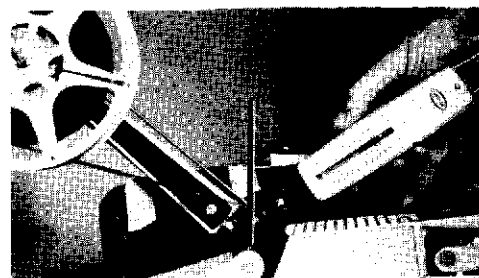

Figure 3-29a. Using Film Tension Gage (p/n T-38000-S)
- \* e. Film Tension is adjusted with the top nut under the spring using Film Tension Gage (P/N T-38000-S). See Fig. 3-29a.